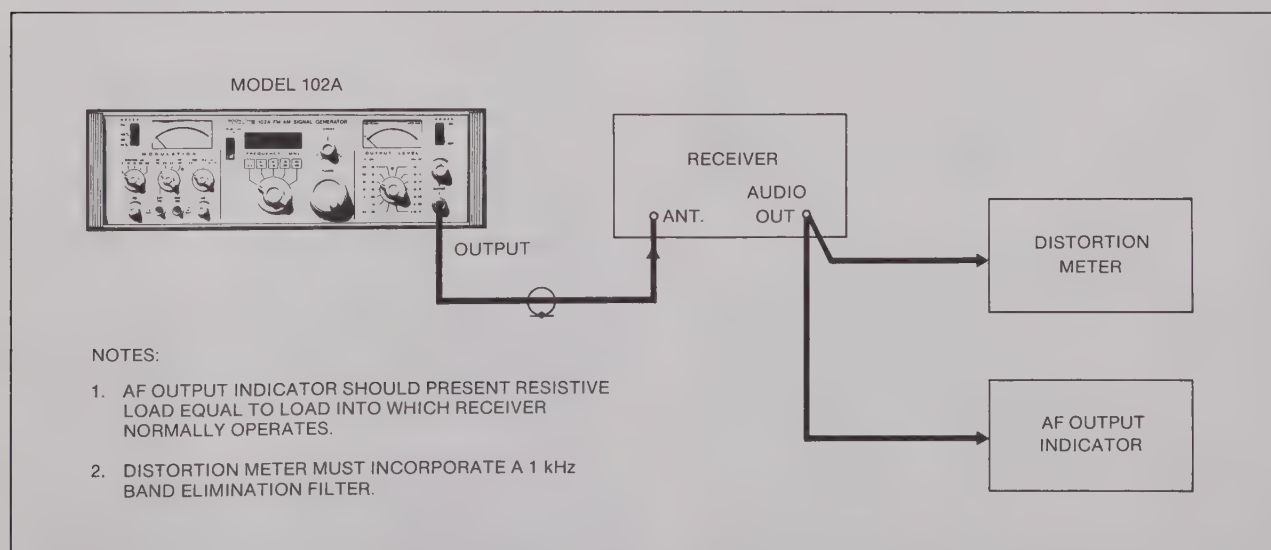

Figure 2-16 EAI Sensitivity Check, Typical Equipment Connection
2-34. EIA Sensitivity Measurement. The Model 102A qualifies in every respect as a standard input signal source for EIA receiver sensitivity measurements. A typical equipment arrangement for such an application is shown in Figure 2-16. Measurement of the minimum usable sensitivity of land-mobile FM communications receivers involves the following steps:
- a. The equipment is connected as shown in Figure 2-16.